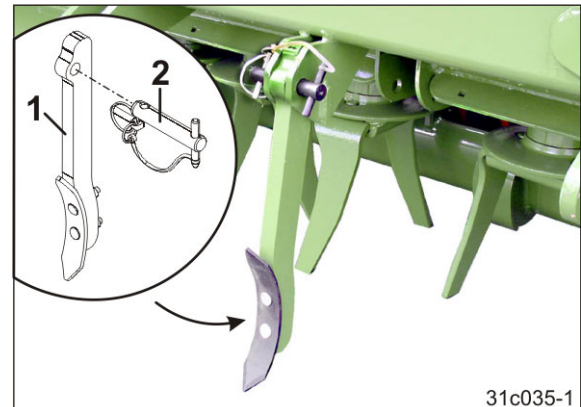

Fig. 70
4. Hold the centre line eradicator (Fig. 70/1) in place using a pin (Fig. 70/2) and secure with a linch pin.